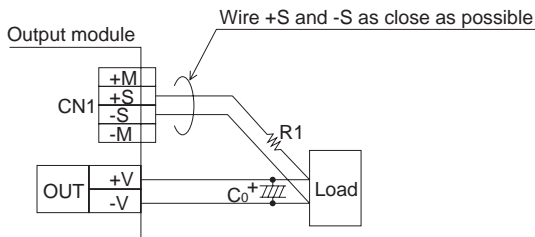

Fig.2.4 When using remote sensing function
- Wiring method with remote sensing is shown in Fig.2.4.
- ① Note connecting wires enough because the load current flows to sensing line and an internal circuit of power supply is damaged occasionally, when defective contact of the screw such as loosening happens in the load line.
- ② Conform the line drop should be at 0.3V or less using a thick wire from the power supply to the load.
- ③ When remote sensing function is used, output voltage might become unstable because of a impedance of wiring and load condition. And the power supply should be evaluated enough. Following are examples to improve it.